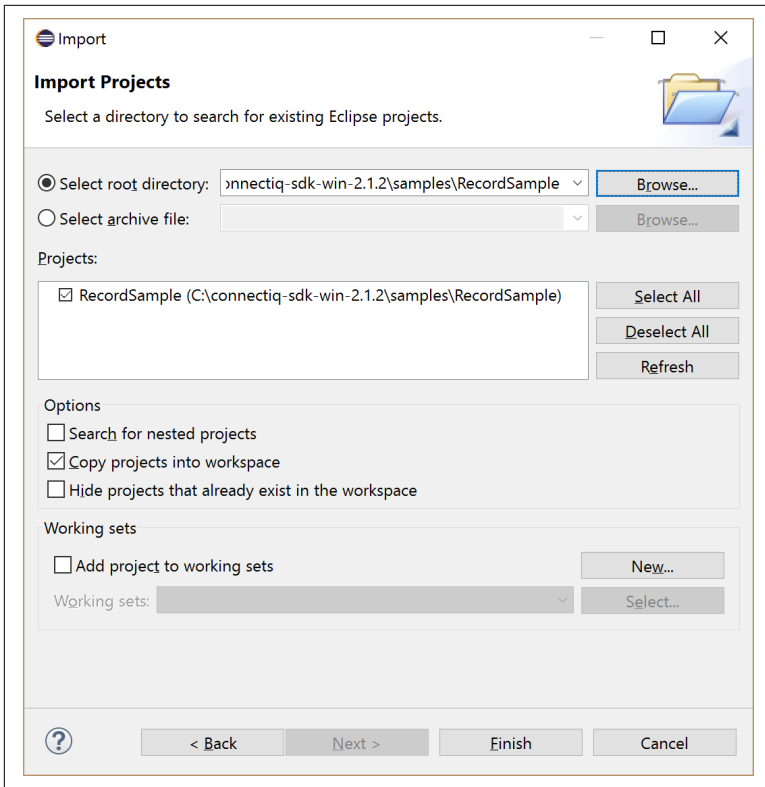

Figure 4-2. Importing the RecordSample
3. Back in the Import dialog, check the box to the left of Copy Projects into Workspace. That way, you'll be working on a copy of the sample (very important in case you make any mistakes) rather than the original. The Import dialog should look like Figure 4-2. Click Finish. The RecordSample project will appear in your Project Explorer.